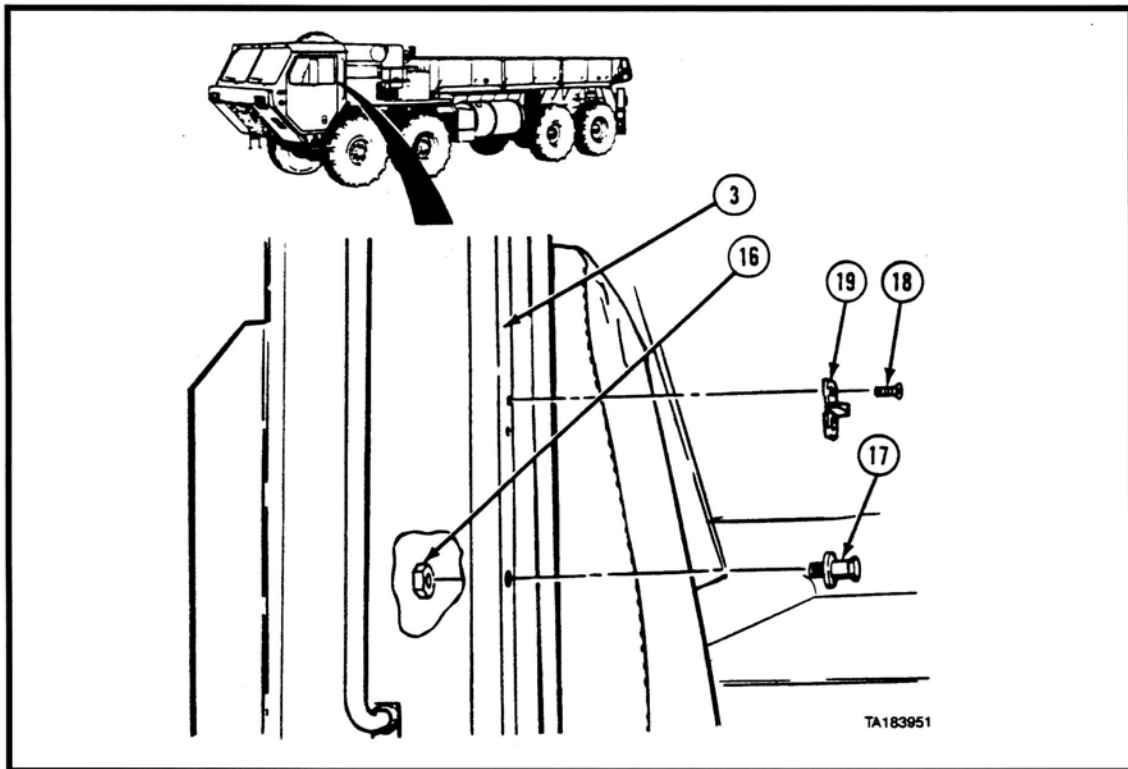

Figure 4. Remove the Male Dovetail and the Striker from the Door Frame.
1. Remove the two screws (Item 18 in Figure 4) that secure the Male Dovetail (19) to the Door Frame (3), and then remove the Male Dovetail from the Door Frame.
2. Remove the nut (16) and remove the Striker (17).